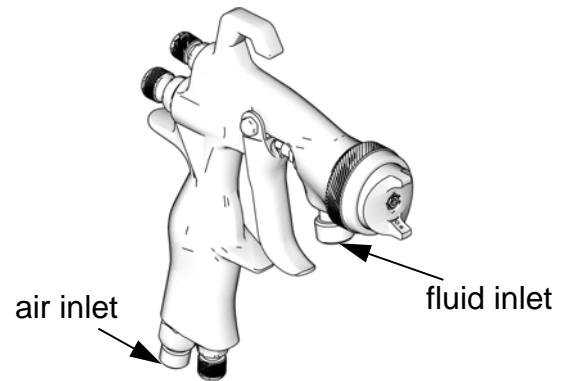

FIG. 1
4. Connect a clean, dry, filtered air supply to the air inlet fitting. See FIG. 1.
5. Connect a fluid hose to the fluid inlet fitting. See FIG. 1.